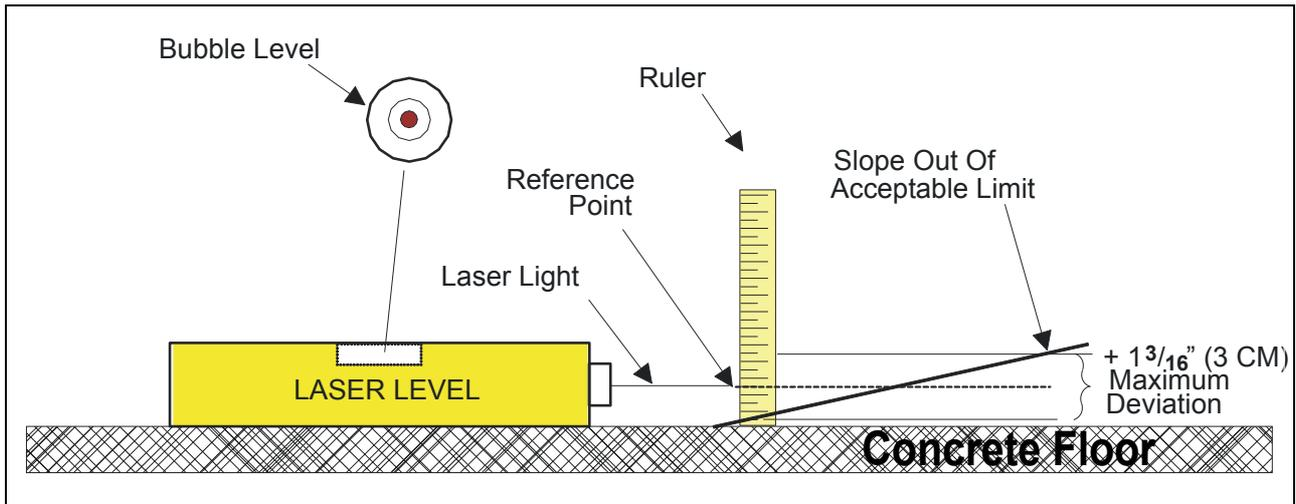

Figure 4-13 Slope Measurement
- d. Use a ruler to measure the height of the laser light from the floor next to the laser level. (This is reference point on the ruler for all other measurements.) Refer to Figure 4-13.